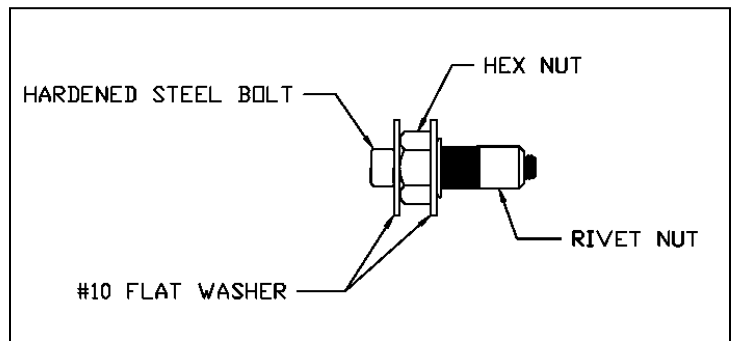

Figure 2
7. Place a #10 flat washer, hex nut, another #10 flat washer and rivet nut on black hardened steel bolt, shown in **Figure 2**, and place in drilled hole. Use a 7/16" wrench to hold hex nut and 5/32" hex bit to turn the hardened steel bolt until rivet nut is tightened down. **(Do not install with drill, use hand tools only)**. Remove hardened steel bolt, flat washers and hex nut. Repeat in all four holes.